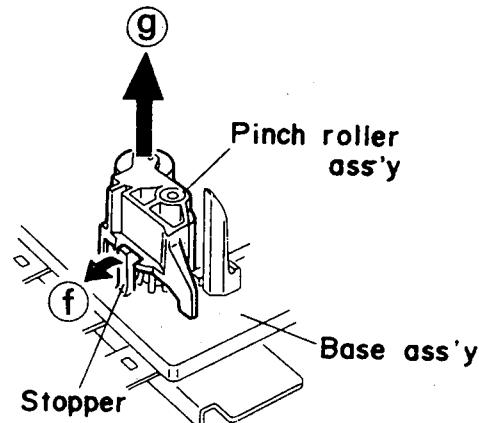

Fig. 2-38
■ Pinch roller assembly (Fig. 2-38)
1. Full out the stopper protruding from the base assembly in the direction of the arrow ① to remove it from the pinch roller assembly.
2. Then, pull out the pinch roller assembly in the direction of the arrow ②.